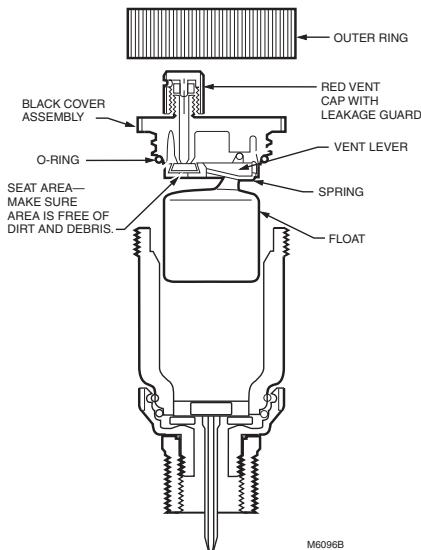

Fig. 5. EA79 construction.
2. Remove the float assembly by unscrewing the outer ring at the top of the body and lifting the black cover assembly up. See Fig. 5.
5. Replace the float assembly, making sure that the O-ring is seated properly. See Fig. 5.
The EA79 is not venting air or there is too much air in the system.	<ol style="list-style-type: none"> <li>1. Check the red vent cap; make sure the vent passage is open (disks are not swelled).</li> <li>2. Check that the valve is in the open position.</li> <li>3. Make sure that the float is attached to the vent lever as shown in Fig. 5.</li> </ol>